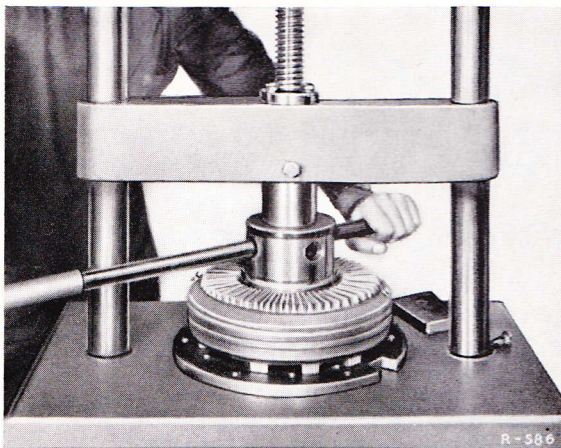

Fig. 25-4/2
3. Remove the axial seal together with graphite ring (Fig. 25-4/3).